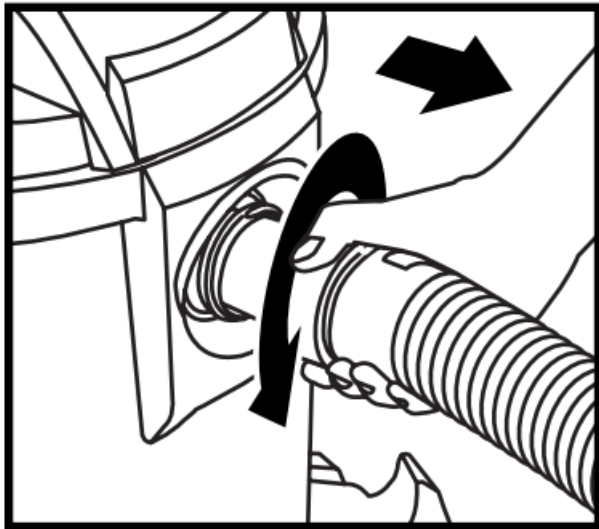

FIGURE 24
32. Unscrew hose locking nut and remove hose from inlet. **FIGURE 24.**